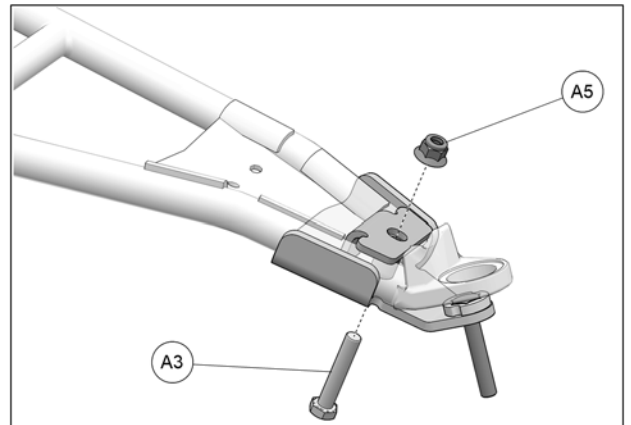

Fig. 19
6. Insert M10x55mm bolt (A3) through bottom part, bushing (A4), and cover. Secure the parts together with the nut (A5) provided. Tighten assembly to 50 N•m [37 lb•ft] of torque. See Fig. 19